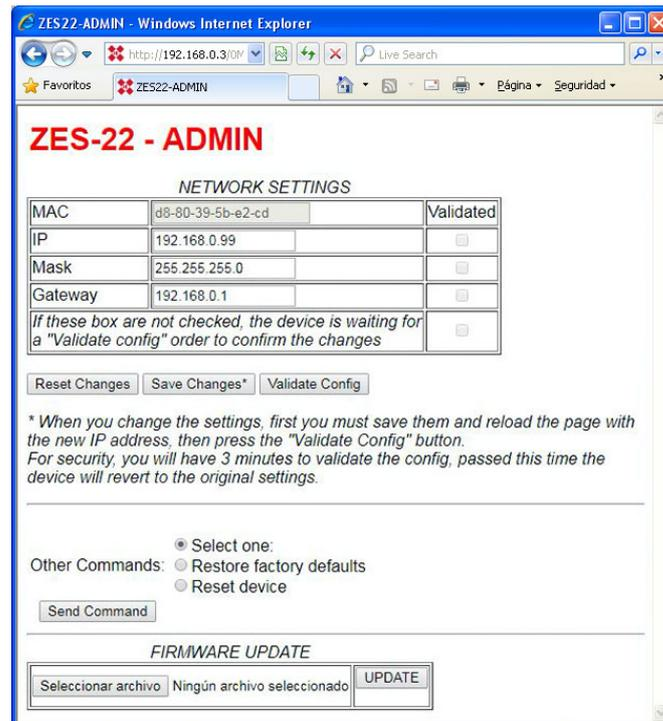

Figure 9: Unit access
| Figure 9: Unit access..... | 8 |
At the bottom of the configuration screen in Figure 9 you can see a field for the firmware update. Operation step by step:
4. Once the equipment has been updated and restarted, the initial configuration screen of figure 9 will be shown again with the new firmware already running.